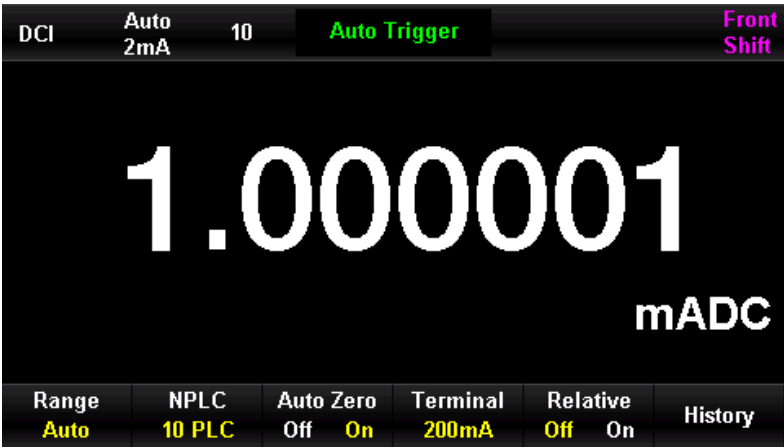

Figure 0-12 DC Current Measurement Menu
1. Press the  key on the front panel, and then press  key to enter the DC current measurement menu, as shown in Figure 0-12.